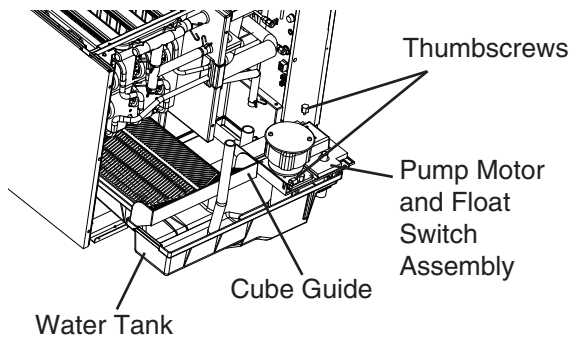

Fig. 7
- 7) Remove the 2 thumbscrews securing the pump motor and float switch assembly. See Fig. 7.